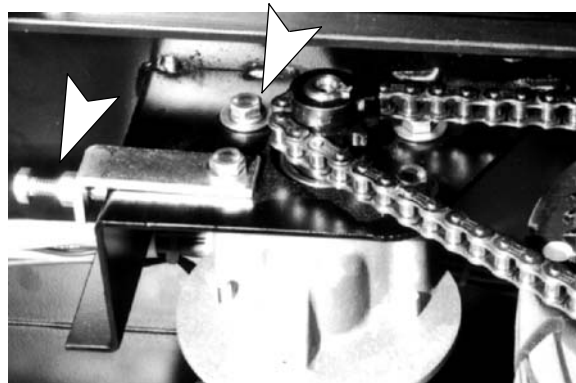

FIG. 42
- Loosen locking nut on tension bolt (Figure 42).